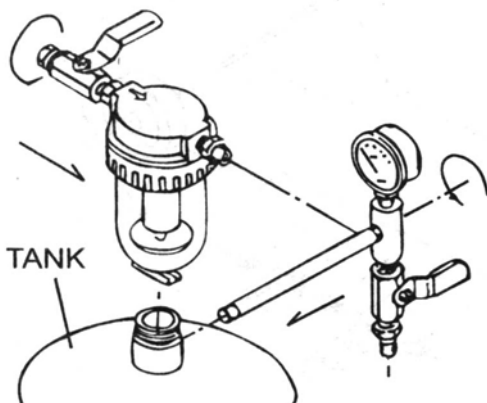

Fig. 3
3. See figure 3. Place the tank on a table with the four holders facing up. Screw the water separator (17) into the side of the inlet (14). Then screw the connection pipe (13) into the threaded hole in the side of the tank's filling pipe. Make sure that the inlet is installed vertically.